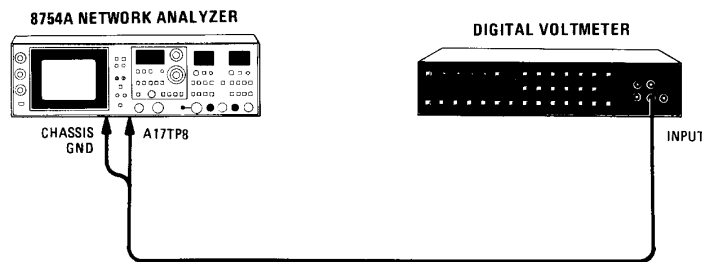

Figure 5-3. Sweep Generator Adjustment Test Setup
- a. Connect equipment as shown in Figure 5-3.